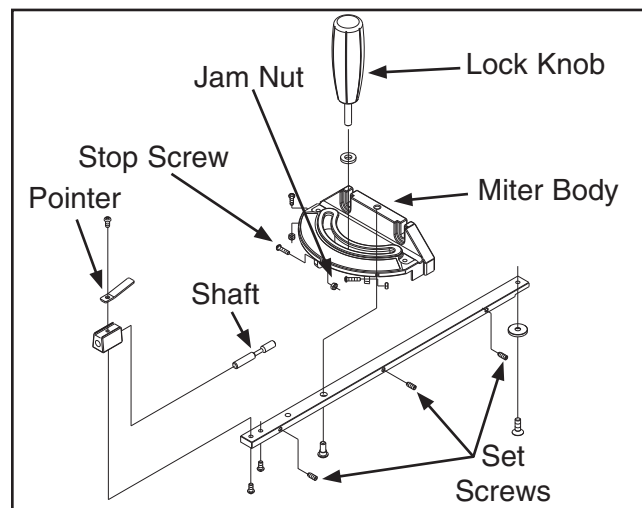

Figure 83. Miter gauge diagram.
2. Push in the shaft (**Figure 83**).
5. Loosen the jam nut and adjust the stop screw until it is seated against the shaft (see **Figure 83** for part locations), then tighten the jam nut.
9. To fit the miter bar tighter in the miter slot, turn the adjustment set screws shown in **Figure 83** clockwise in small increments, and test fit between adjustments until the miter gauge fits your expectations.